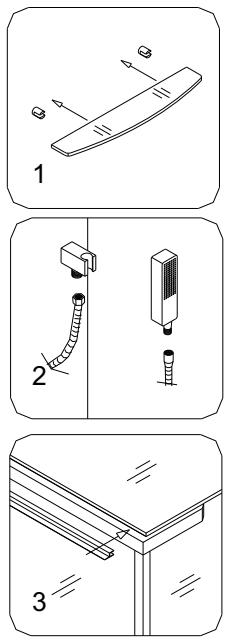

Fig. 25
17. Install the **Glass shelf (12)** onto the shower column. Connect the **Hand shower (13)** and the **Hose (14)**. Push the **Anti-water strip (19)** on the **Roof** to cover the gap between the **Roof** and the upper **L-Pivot bar**. See fig. 25 for details.